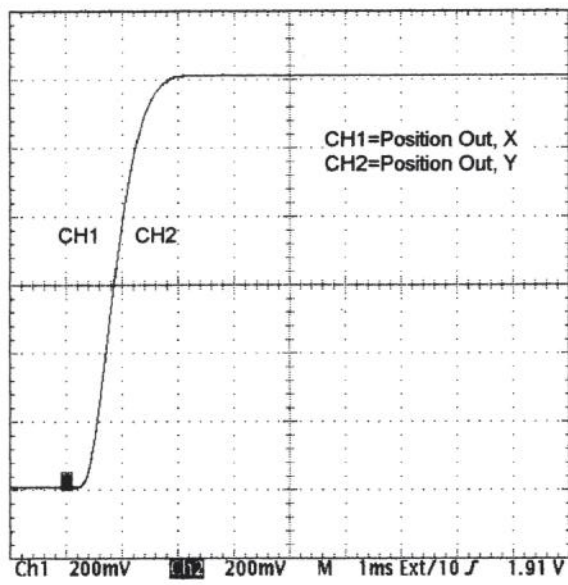

Figure 14.
6. Slow the faster servo channel as necessary by adjusting its servo adjustment trimpots slightly. Refer to section 6.1.7. for proper operation of all the tuning trimpots. Ensure that the channel is still critically damped when done. Be patient. The faster channel should be slowed to track the first almost perfectly. When done, the system should look like Figures 14 and 15.